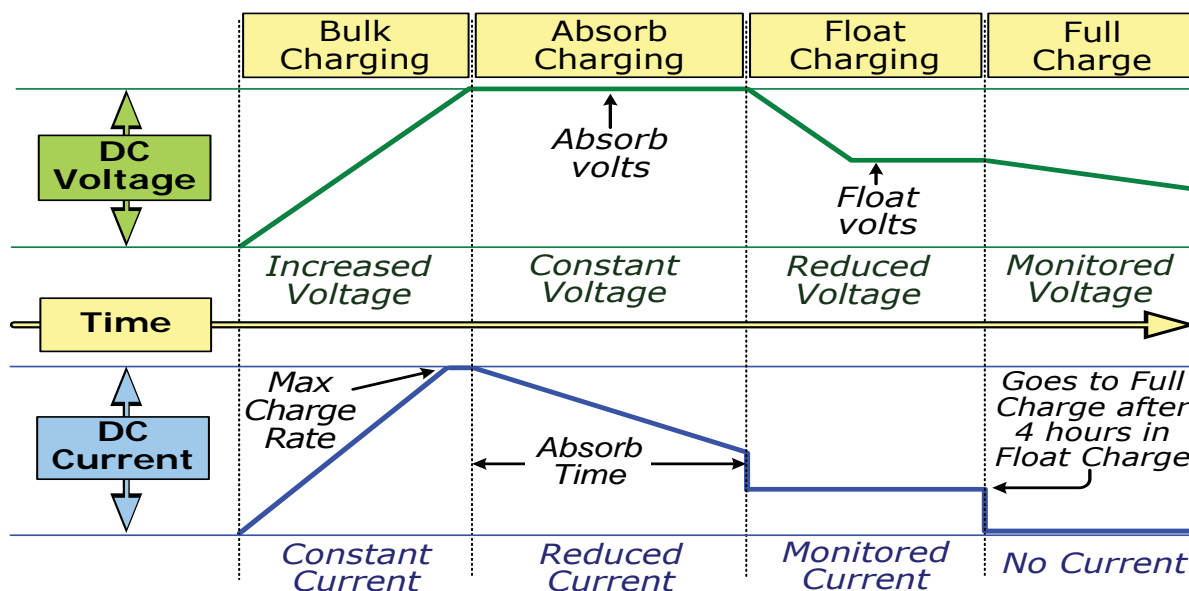

Figure 3-3, Automatic 4-Stage Charging Graph
The multi-stage charger in the ME Series can use up to five different charging stages to help monitor and keep the batteries healthy. The five stages include an automatic 4-stage charging process (see Figure 3-3): Bulk, Absorb, Float, and Full Charge; and a manual Equalization (EQ) Charge stage. The automatic 4-stage charge process provides complete recharging and monitoring of the batteries without damage due to overcharging. The EQ stage (requires a remote display to enable) is used to stir up stratified electrolyte and to try to reverse battery plate sulfation that may have occurred. While charging, the unit may go into Charger Back-off protection, which automatically reduces the charge current to the batteries. This is caused by: 1) the internal temperature is too hot—the charger automatically reduces the charge rate to maintain temperature; or, 2) the AC input voltage falls below 90 VAC—the charger will stop charging to help stabilize the incoming AC voltage.
The Charge mode provides up to four separate charging stages: Bulk Charging, Absorb Charging, Float Charging, and Full Charge (see Figure 3-3).